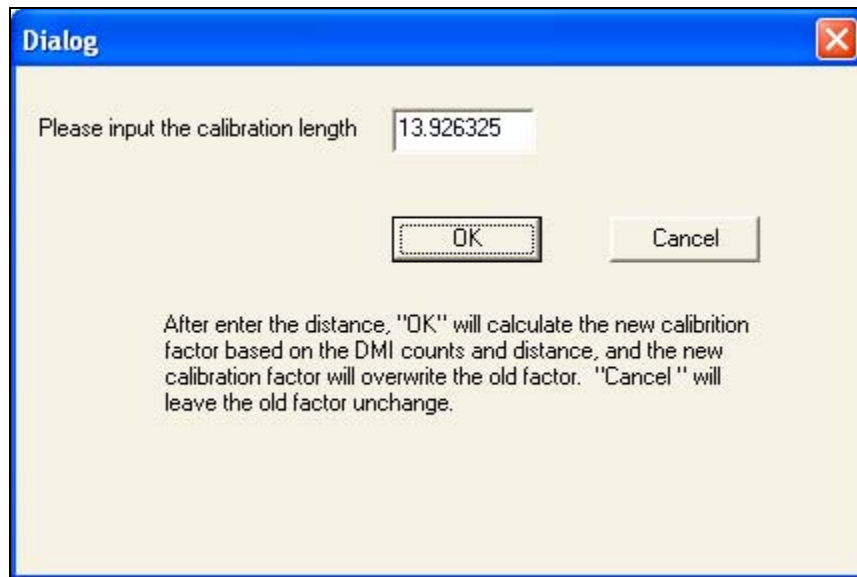

Figure 24. End Calibration Screen for DMI.
- Press the End Calibration button; the screen shown in Figure 24 will appear.